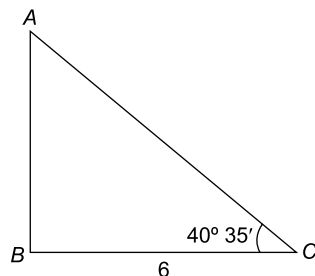

Figure RT1.3
4. In triangle ABC in Figure RT1.3, find lengths AB and AC , correct to 2 decimal places